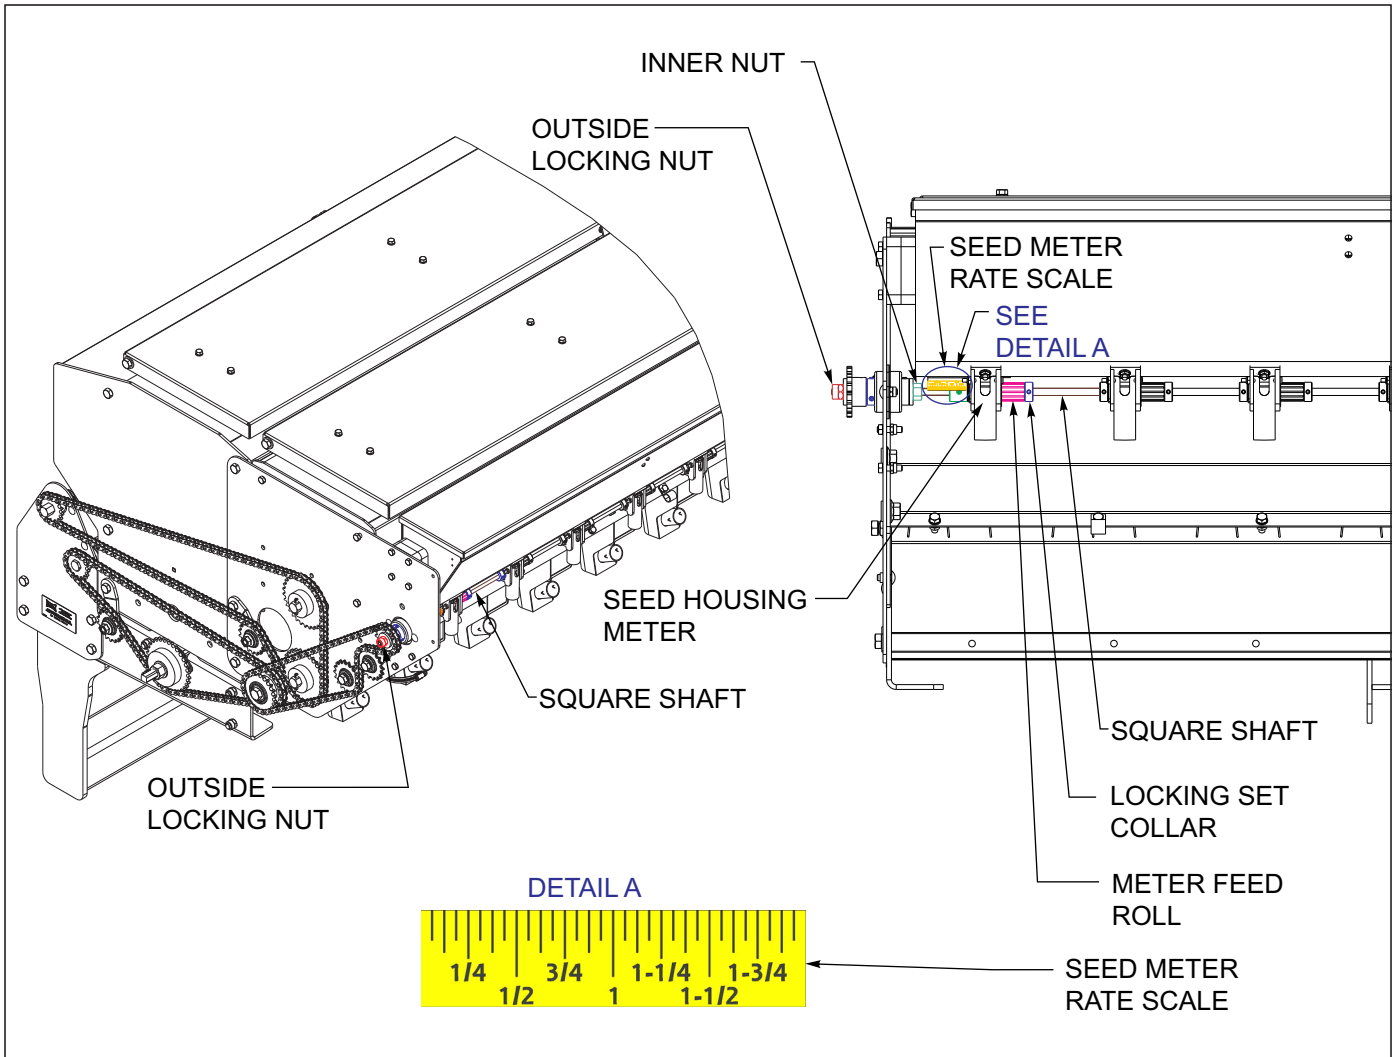

Figure 4-36: Small Seed Rate Adjustment
- c. Adjust the inner and outer 1/2" nuts to the desired rate settings on the seed meter rate scale See Figure 4-36.
- b. Adjust the outer locking nut approximately flush with the end of the square shaft. Lock the inner nut to hold the shaft in place *See Figure 4-36*.